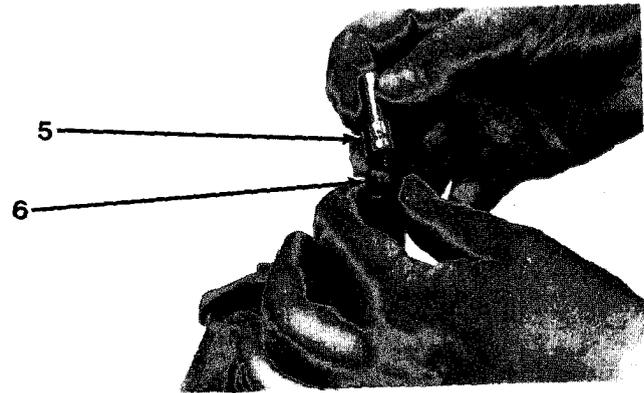

Figure 7-3
3. Install intermediate plate (6) and nozzle tip (5, Figure 7-3).